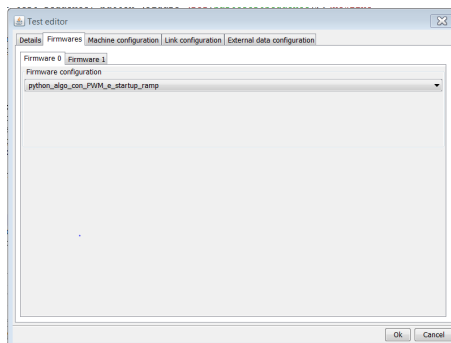

Figure 6.7: Click.
- *Details*, is shown in Figure 6.7;